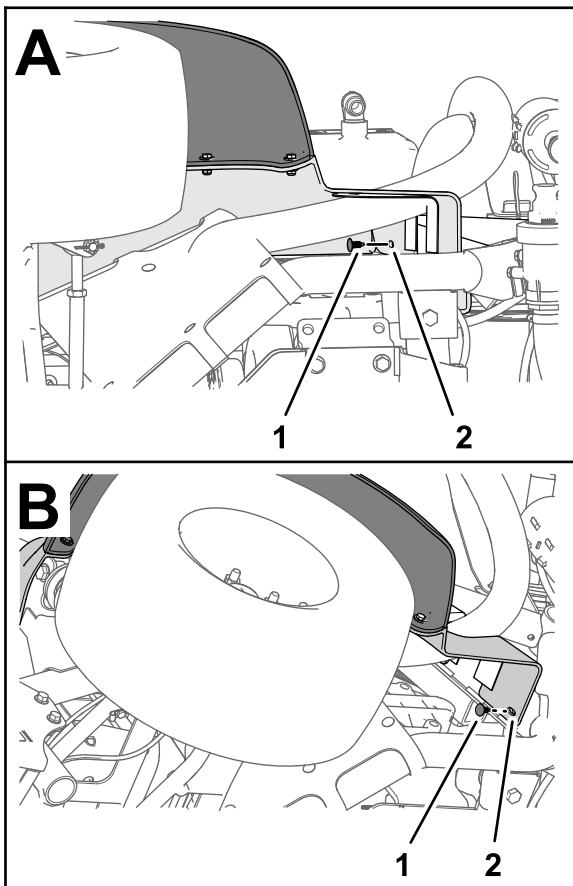

Figure 217
5. Secure the fender to the frame channel with the 2 push-in fasteners (Figure 217).